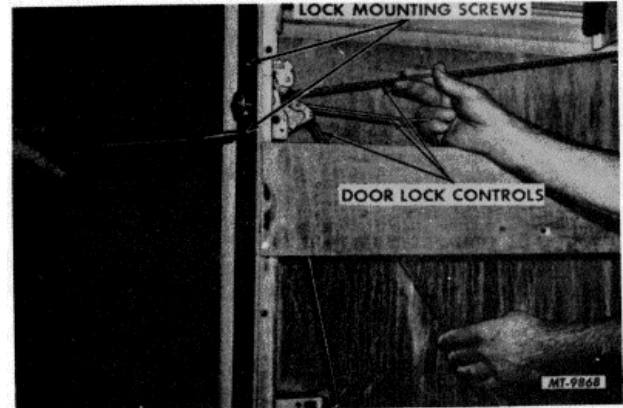

Fig. 21
1. Remove 3 screws securing door lock assembly to door, Fig. 21.